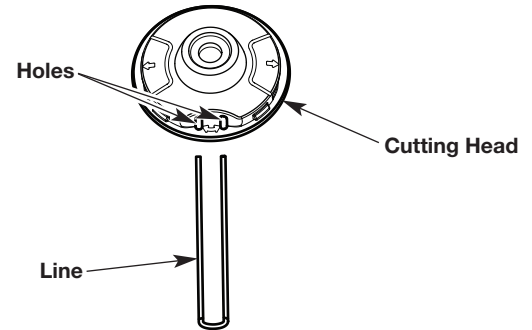
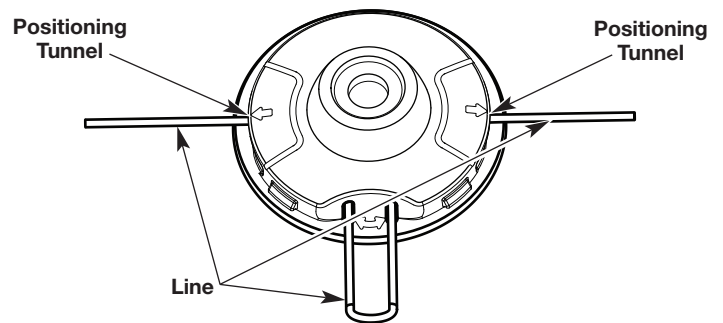

Fig. 17
Fig. 18
3. Insert the ends of the new trimming line into the holes in the cutting head (Fig. 17). Push the line through the holes until both ends protrude from the positioning tunnels (Fig. 18).